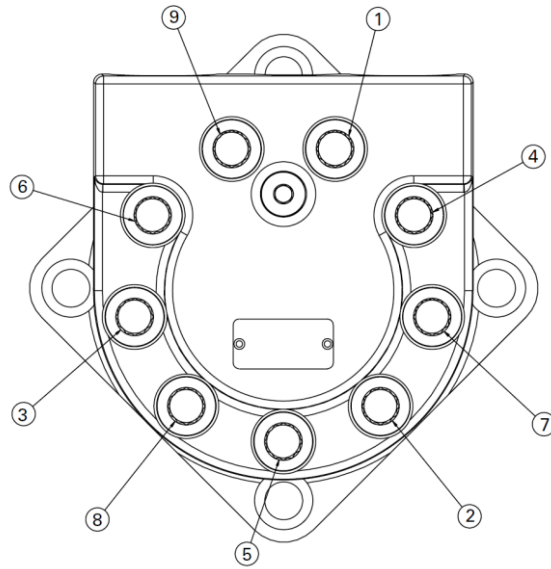

Figure 10 Screws assembly
16. Install nice cap screws lubricated with DTE-26/DTE-24. Pre torque each in a crisscross pattern (see Figure 10) to 60+/-10 lb-ft. Finally, in a crisscross pattern, tighten screws to 105+/-5 lb-ft.